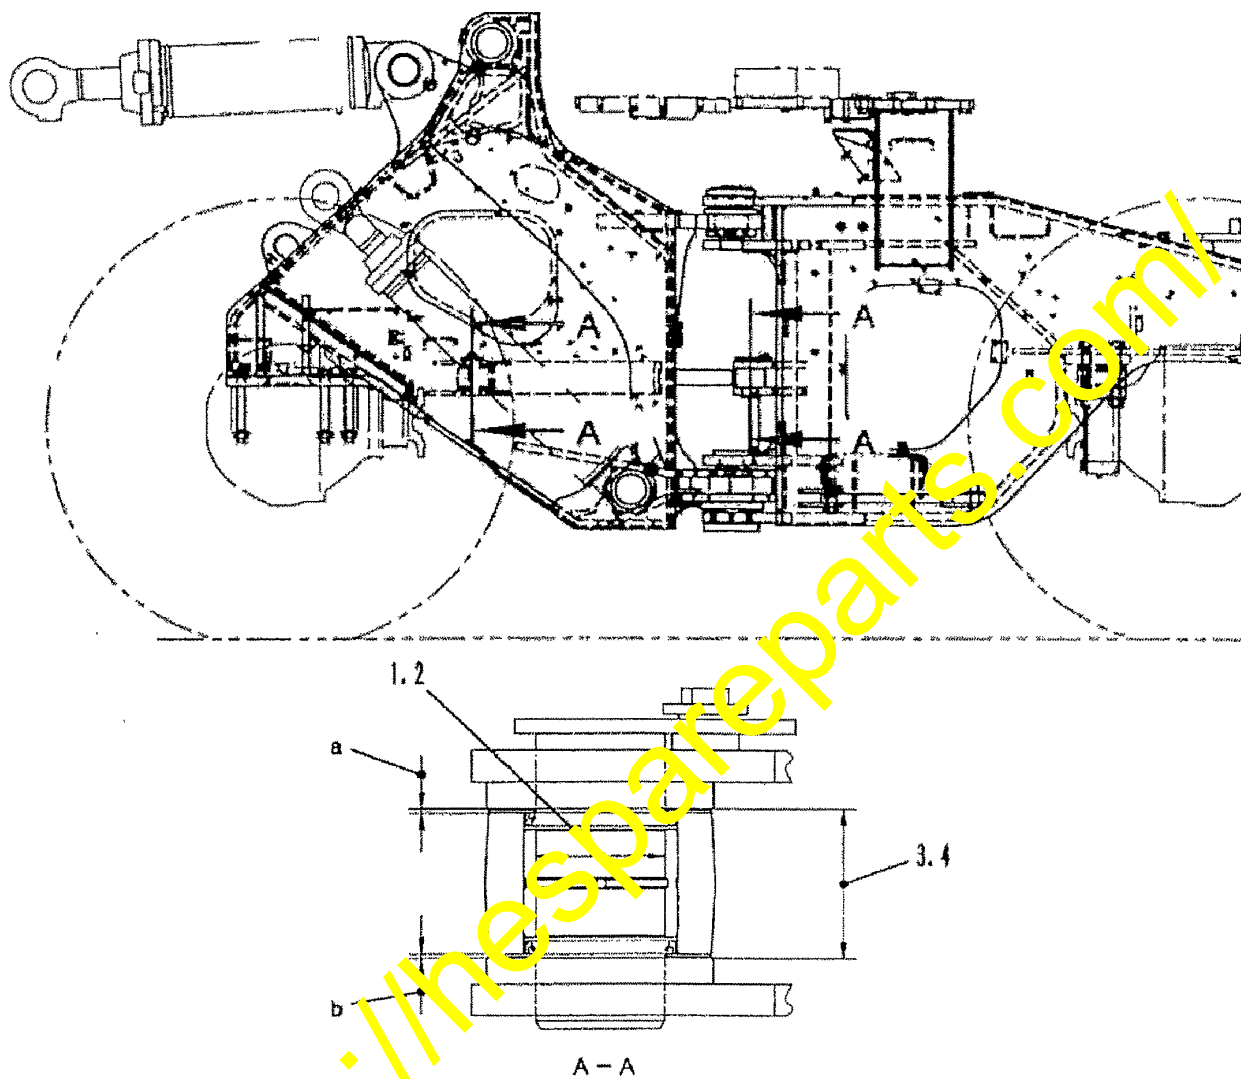

Fig. 1
- (1) When the pin hole is worn, apply build-up welding and carry out boring once again. Regarding the boring dimensions, refer to Fig. 1 or refer to the Shop Manual. As the welding rod, use a low hydrogen type 50 kg/mm, Class 2 welding rod.